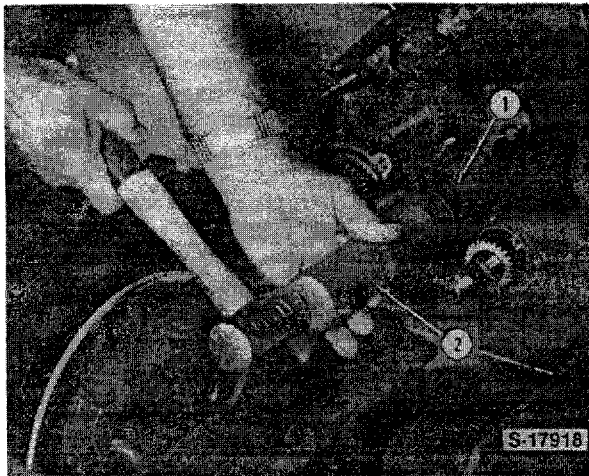

Figure 46
- Use a suitable driver and install the port block assembly as shown, Figure 46. The installer must bottom against the engine block when fully positioned.